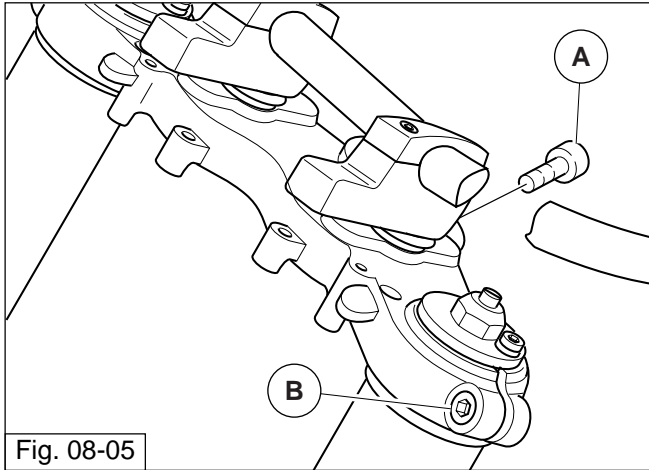

Fig. 08-05
- Svitare le viti "A" e "B" di tenuta superiore (fig. 08-05);
- Unscrew the upper sealing screws “A” and “B” (fig. 08-05);
- Die Schrauben “A” und “B” für den oberen Halt (Abb. 08-05) lösen.